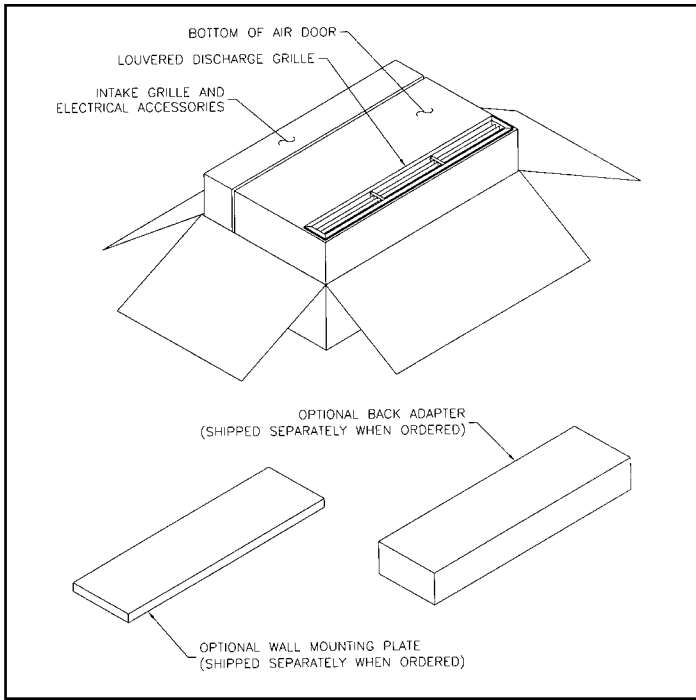

FIGURE 1 - Contents
**See Figure 1.** Immediately upon unpacking the unit, verify that the rating nameplate agrees with the electric supply available.